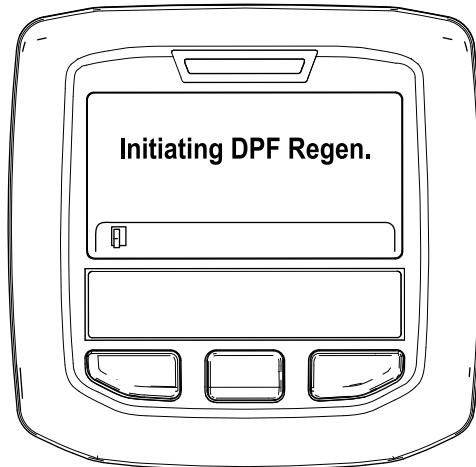

Figure 53
A. The "Initiating DPF Regen." message displays (Figure 53).